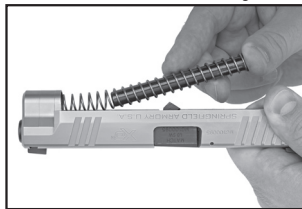

Figure 26-3
2. Reinstall the recoil system insuring it is properly aligned (See Figure 26-3.)